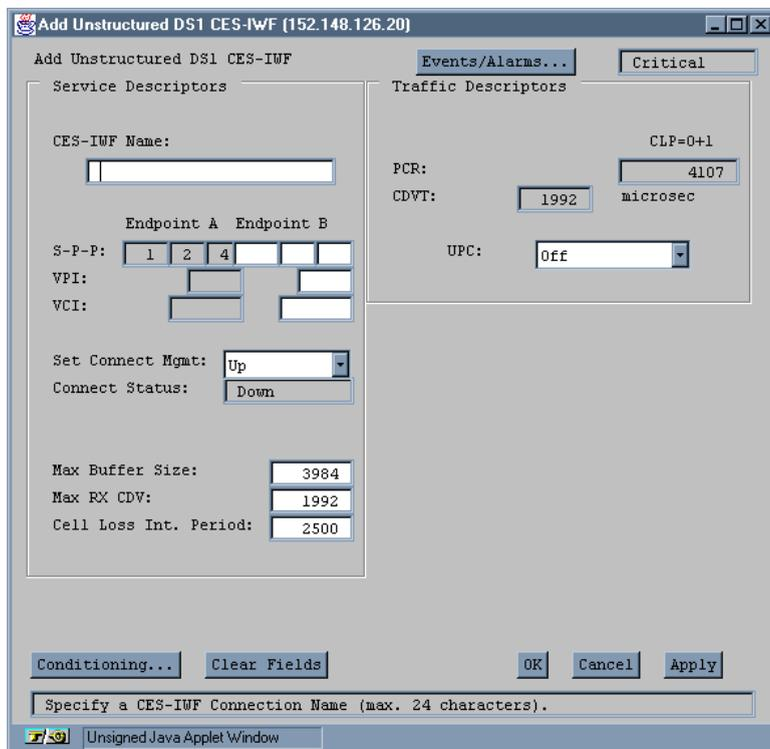

Figure 5-20. Add Unstructured DS1 CES-IWF Window
- a. If you Set CBR Service to “Unstructured” (the default), the Add Unstructured DS1 CES-IWF window (see Figure 5-20) or the Add Unstructured E1 CES-IWF window (see Figure 5-21) appears.